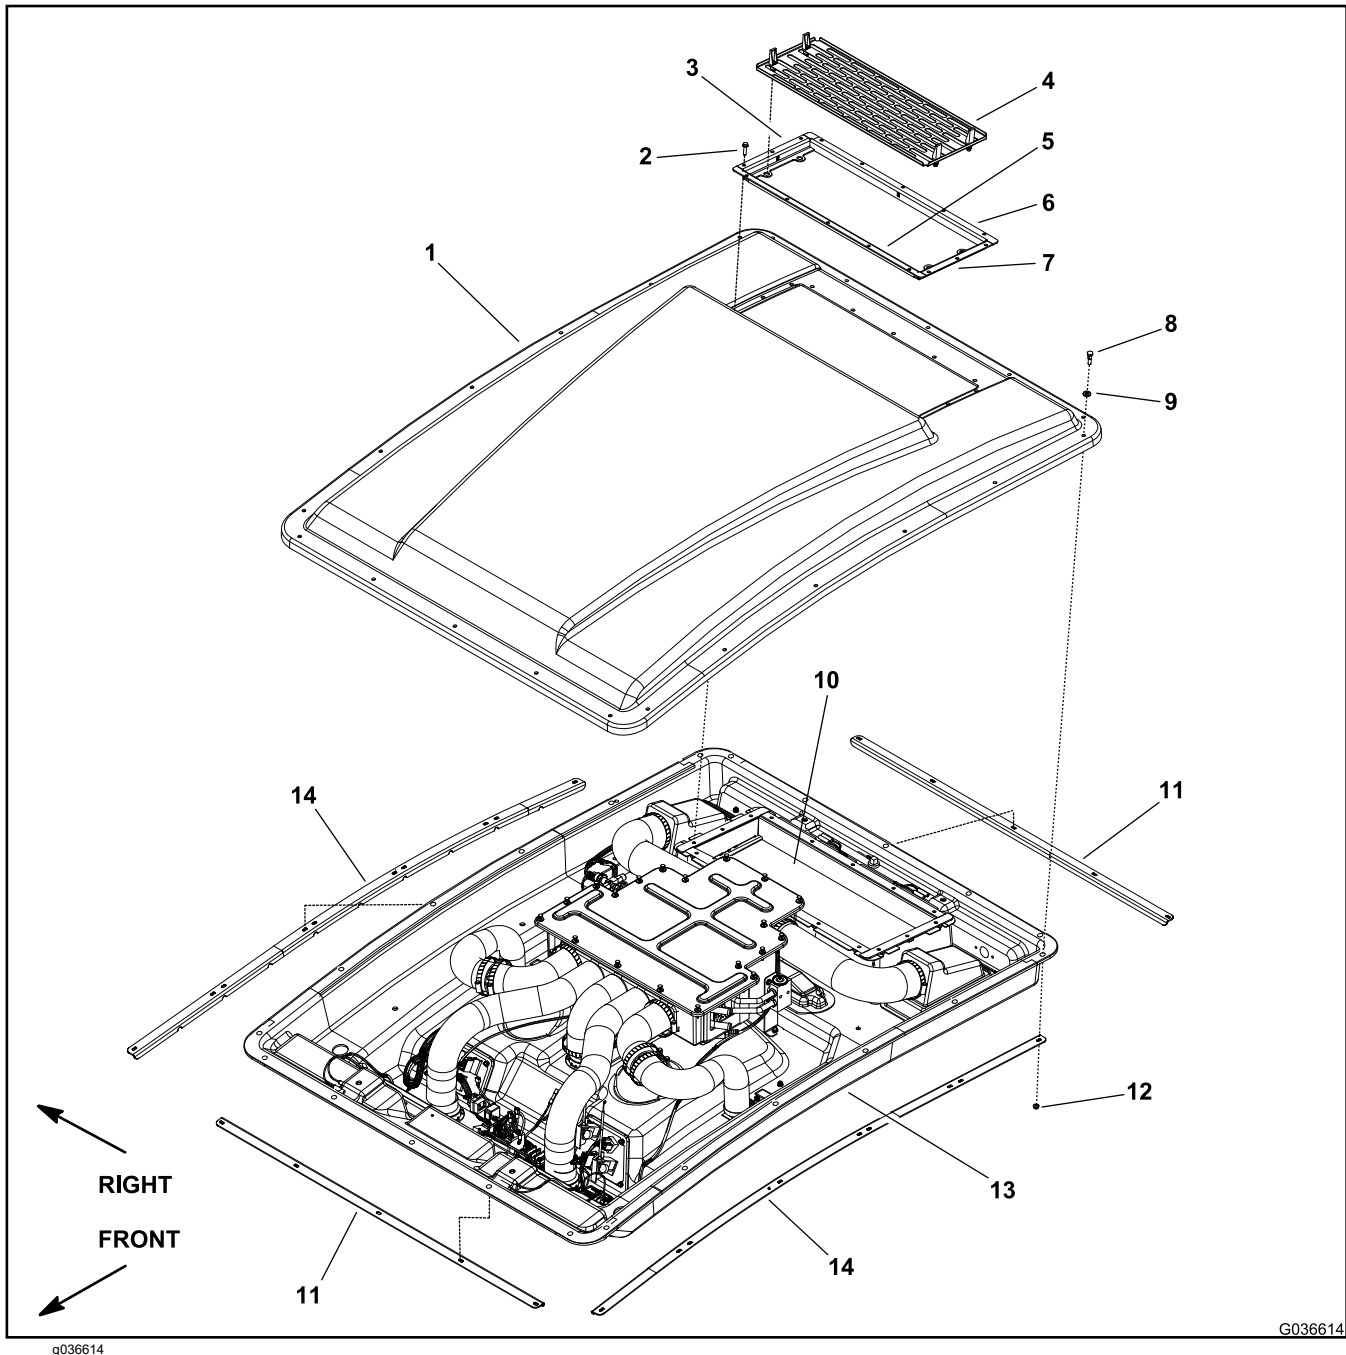

Figure 322
2. Release the 4 swell latches and lift the condenser screen (item 4 in Figure 322) from the roof assembly.
3. Remove the 16 flange-head screws (item 2 in Figure 322) that secure the condenser seals (items 3, 5, 6, and 7) to the roof and air conditioning condenser assembly.
4. Remove the 22 shoulder screws (item 8 in Figure 322), 22 flat washers, and 22 flange nuts that secure the roof and cab straps to the headliner.
3. Secure the roof to the headliner with the 22 shoulder screws (item 8 in Figure 322), 22 flat washers, cab straps, and 22 flange nuts that were removed.